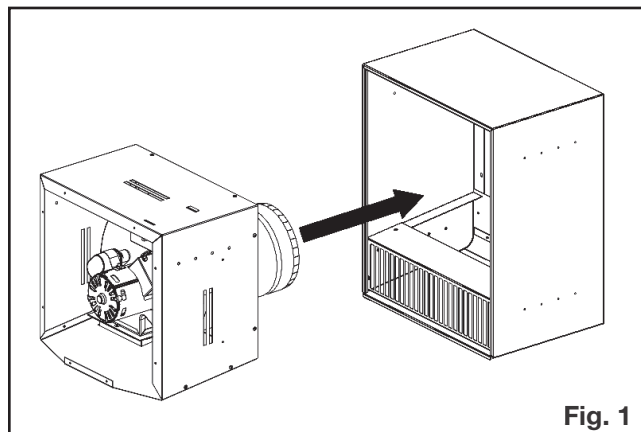

Fig. 1
1. Insert the blower housing assembly into the exterior housing assembly. Ensure correct orientation (**Fig. 1**).
1. Determine the desired location of the exterior housing assembly on the exterior wall, and then frame a 14 1/2" (36.8cm) wide by 17 1/4" (44cm) high opening (**Fig. 1**).